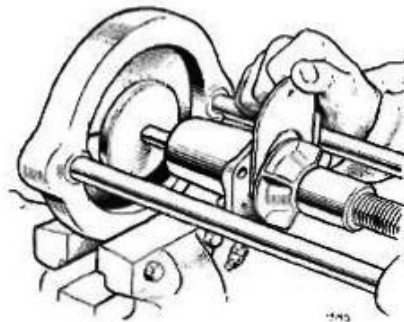

Fig. 13. Using gauge to obtain 0.030" (0.762 mm.) clearance between impellor and housing face
Re-assembly (Fig. 13)
1. Fit items (27), (26) and (14) to the shaft (28). Pack the ball races (24) with grease and press onto the shaft with their sealed faces outwards and the spacer (25) between them.
2. Using a tubular drift, drive the bearings with the shaft (28) into the housing and secure with the circlip (23). Press the seal assembly (30) into the impellor (31).
3. Using a 0.030" (0.762mm) thick spacer, press the impellor (31) onto the shaft (28) as shown on Fig. 13. Solder the impellor to the end of the shaft to prevent leakage.
4. Fit the Woodruff key (13) and pulley (21) to the shaft (28), securing with a nyloc nut (17) and plain washer (18).